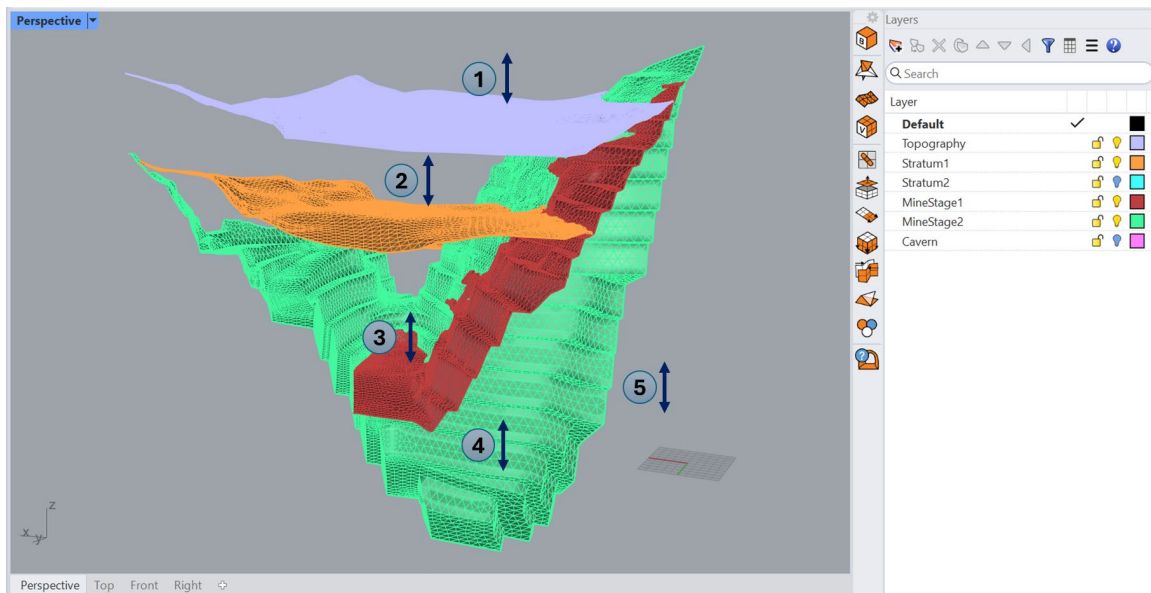

Figure 98: The model is split into 5 distinct volumetric regions as a result of GCollapse operations.
14. Turn on “Topography”, “Stratum1”, “MineStage1”, and “MineStage2” layers. It is seen that the meshes in these layers split the space into 5 distinct well-defined regions as shown in Figure 98. This completes mesh cleaning and separation part of the Tutorial. Incrementally save the model.